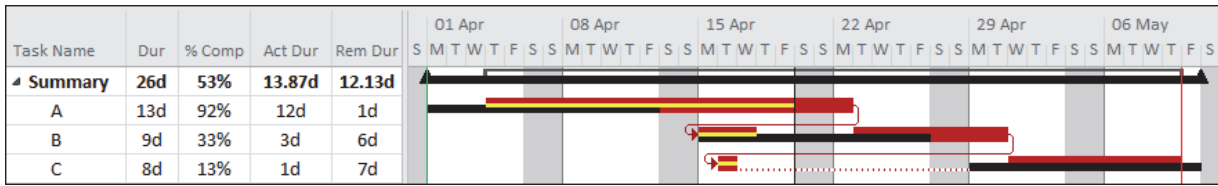

Figure 16 – Progressed Impacted with Actuals Microsoft Project schedule with Split in-progress.
To correct this issue, the following process may be used when the Microsoft Project **Split in-progress tasks** function is required. This is the preferred option in the AACE International, Recommended Practice 90R-17, Stating the CPM Schedule. Figure 16 below has been updated by:
- Setting the **Baseline**, the lower black bars in Figure 16,